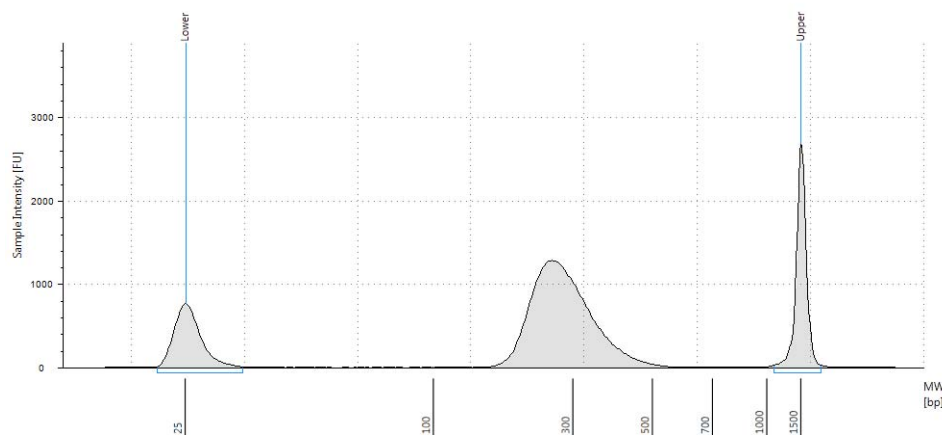

Figure 9 Analysis of amplified library DNA using a D1000 ScreenTape.
- 5 For each sample, measure the concentration of the library (ng/µL) by integrating under the peak at approximately 200 to 600 bp. A sample electropherogram is shown in Figure 9.